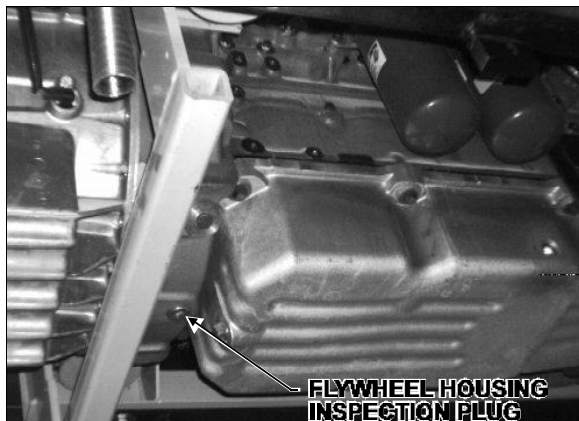

FIGURE 7: UNDER VEHICLE VIEW
7. Worn ring gear teeth. Inspect ring gear teeth by the flywheel housing inspection hole (Fig. 7).